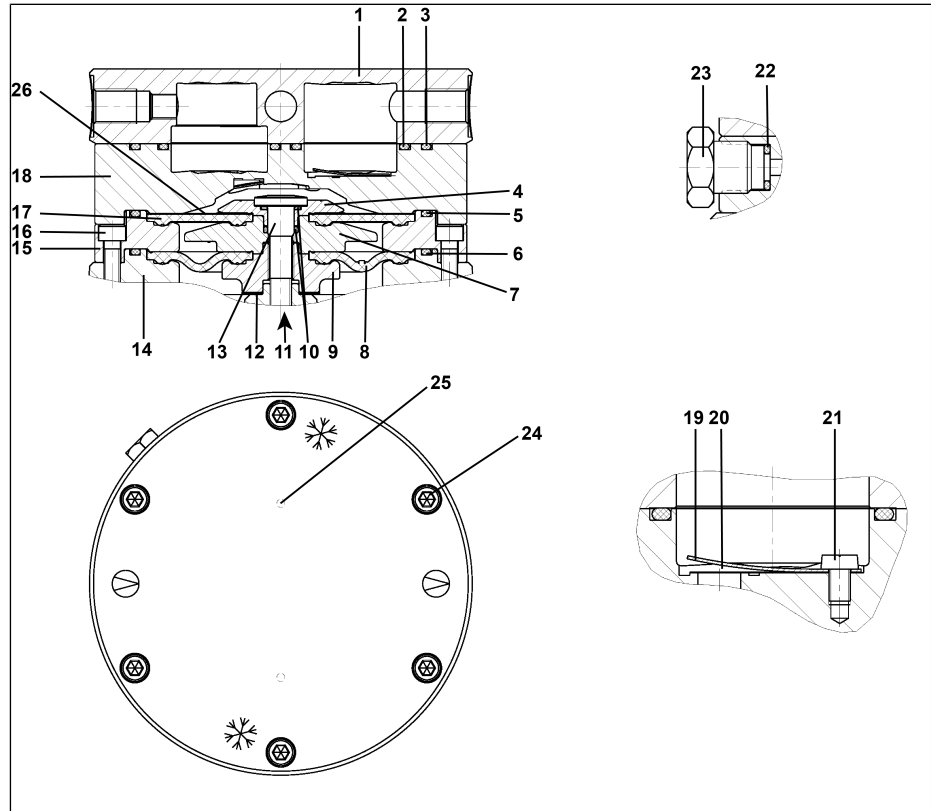

Fig.20 Components of the pump head
** According to Fig. 20
The following item numbers refer to Fig. 20 unless specified otherwise.